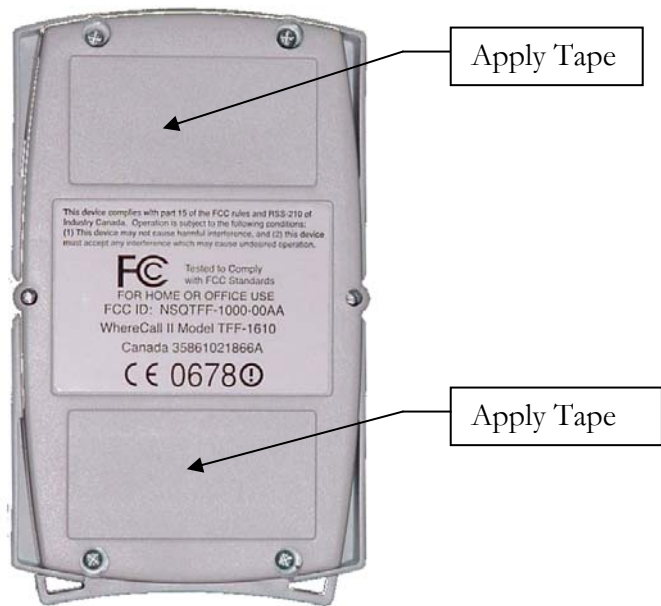

Figure 2: Poly-Lock & foam tape positions
3. Select a pair (they are shipped in attached pairs) of Poly-Lock squares, remove the adhesive backing and press them to the mounting surface, sticky side down (see Figure 2).
3. Select two foam tape squares, remove the adhesive backing from one side only and apply them to the back plate of the WhereCall III as shown in Figure 2.